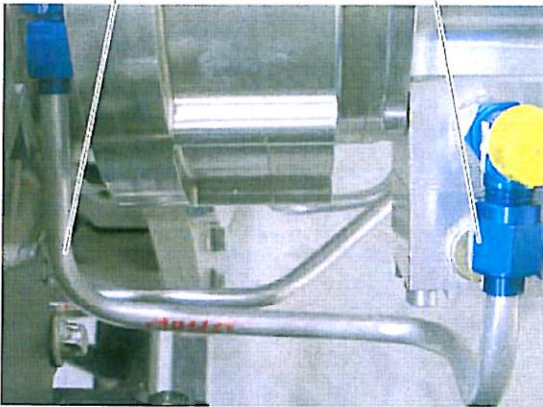

Figure 1
1. *Detach the union of the aluminium pipe nut at the Constant Speed Unit (CSU) while holding the T-piece steady. See Figure 1.*